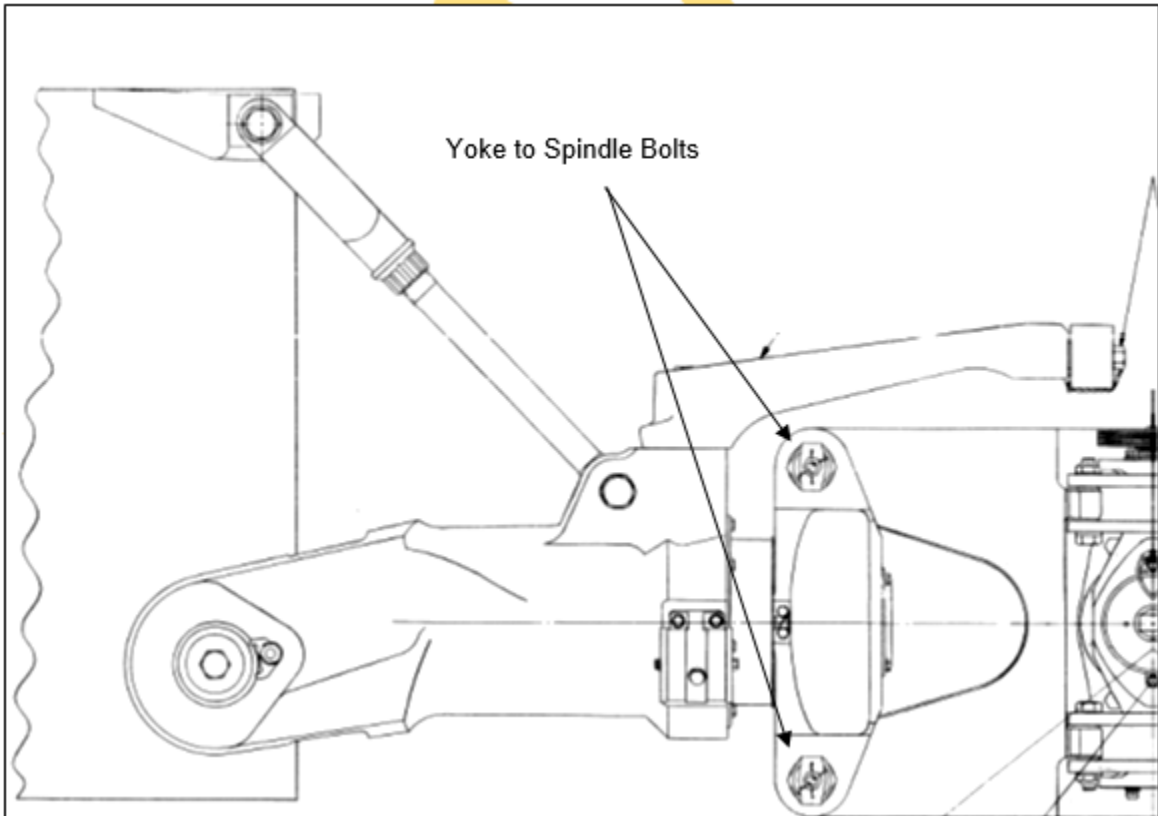

FIGURE 1 Main Rotor Head - Bolt Locations
2. Gain access to spindle yoke bolts, total of four. (Refer to Figure 1)